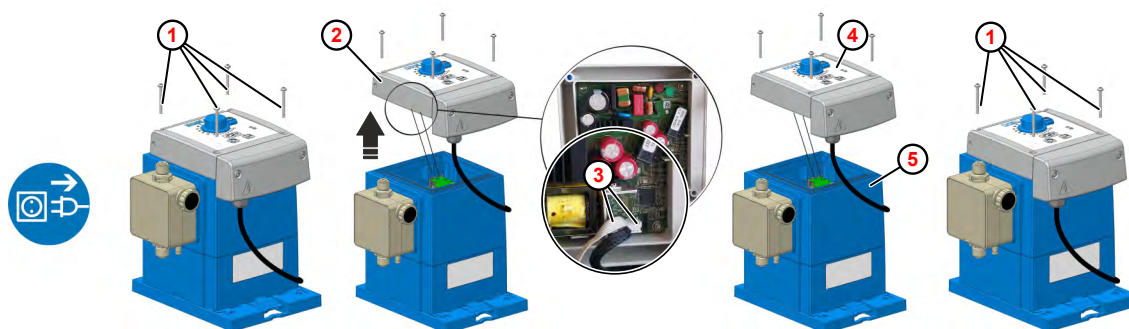

Fig. 18: Replace the control unit
- ① Fixing screw
- ② Control unit
- ③ Plug
- ④ Control unit (new)
- ⑤ Pump housing
2. ➤ Loosen the screws (Fig. 18 , ①) on the control unit ② .